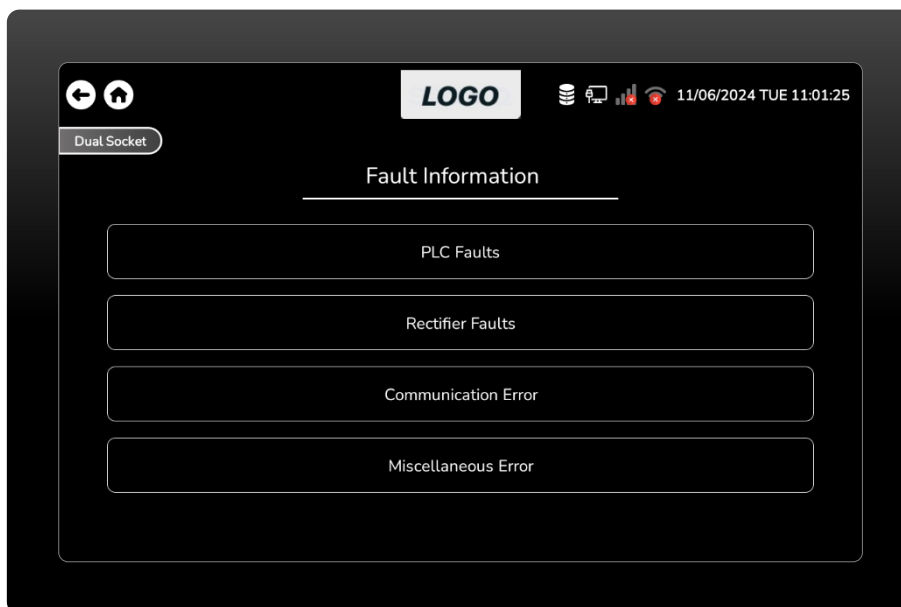

Figure 71 Fault Information Screen.
- This is the fault information screen, where the user can view fault information for the PLC, rectifier, communication, and miscellaneous. (Figure 71)